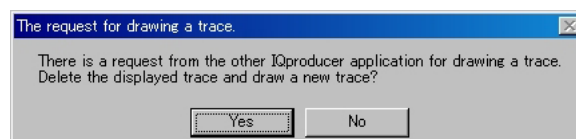

Figure 3.5-2 Confirmation message
2. Select **CCDF** from the **Simulation** menu or click the  tool button. The confirmation message shown in Figure 3.5-2 below appears: